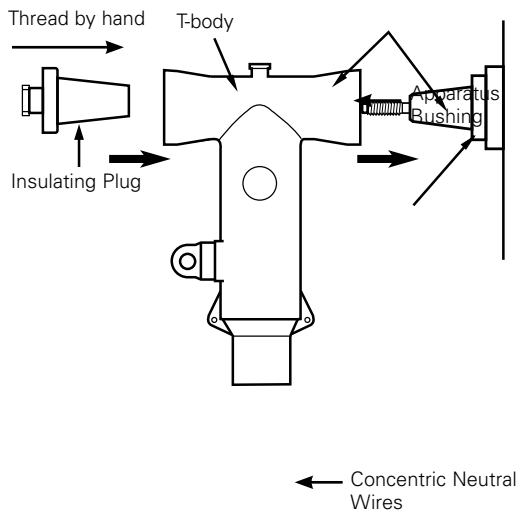

Figure 27. Line illustration of insulating plug installation.
- Insert insulating plug into back of T-body engaging the threads of the stud. See Figure 27.